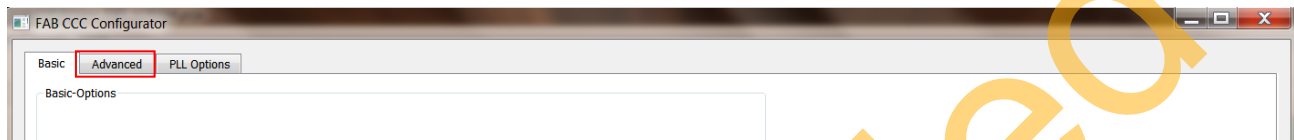

Figure 18. Advanced Tab of the FAB CCC Configurator
4. Drag the clock conditioning circuitry (CCC) block from the Clock & Management sub-section of the IP Catalog. Double-click the **FCCC_0** instance to open up its configuration window. Configure the following items on the Configuration Window, as shown in Figure 18.